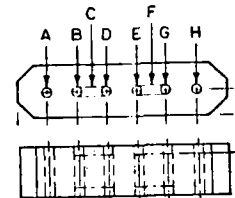

Figure 6-2. Exploded View of 633560 and 635480 Ten-Port (LG10) Teflon Slider Valve Assemblies
Slider valve(s) should be checked if analyzer performance indicates a leaky or sticking valve condition. Refer to Figure 6-2, Ten-Port (LG10) Teflon Slider Valve; or Figure 6-3, Six-Port (LG6) Metal Slider Valve.
1. Remove hex nut from ¼-20 cap screw. Hex nut is item 22 in Figure 6-2, and item 25 in Figure 6-3. Fixed and floating blocks, slider, slider carriage, and associated parts may now be removed. If these are the only parts involved in the leakage, proceed directly to Step 3.
4. Carefully check surface finish of fixed block and floating block; surfaces must be finished to a smoothness of 4 microns (number 4 finish) for best performance. Also check slider. If surfaces are damaged, pitted or scored, replace with new slider. For Beckman Part Number, refer to Figure 6-2 or 6-3. **DO NOT ATTEMPT TO SAND THE SEALING SURFACES OF THE SLIDER.**